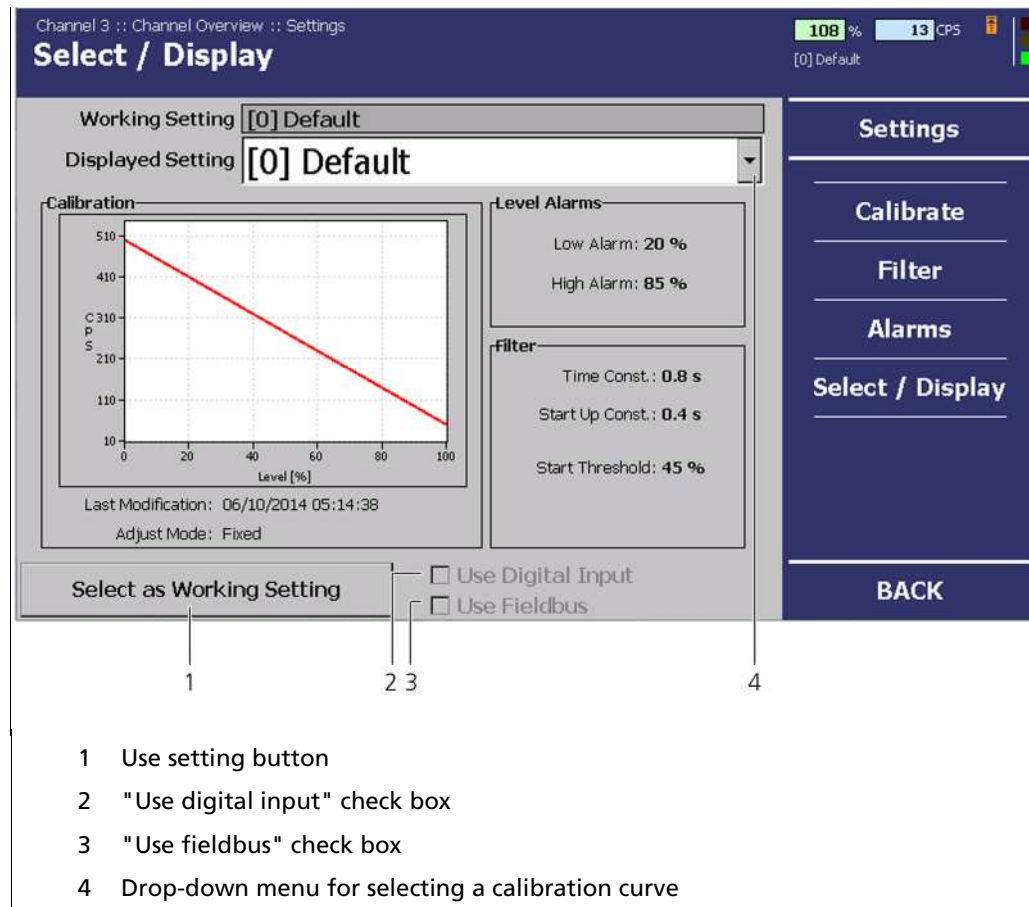

Fig. 63 "Channel Overview" Menu, Settings- Select/Display
In the "Select/Display" submenu, you can view the applied calibration, fill level alarms and filter settings. You can also select calibration curves in the drop-down menu (Fig. 63, Pos. 3) as long as additional ones have been created.
1. Click on the button drop-down menu (Fig. 63, Pos. 3).
3. Confirm your entry by clicking on <Use Settings> (Fig. 63, Pos. 1).